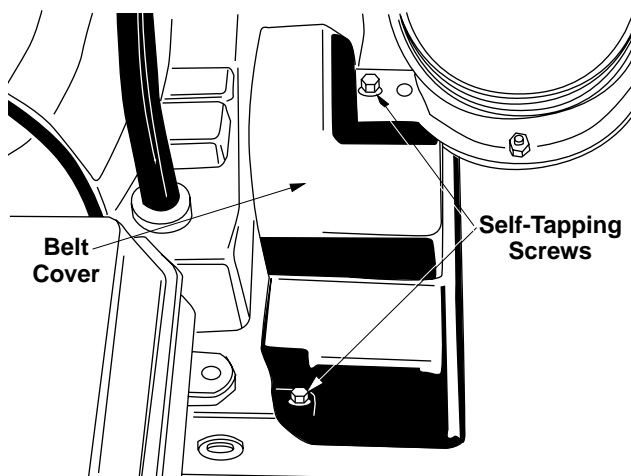

Figure 29
1. Remove the plastic belt cover on the front of the engine by removing the two self-tapping screws. See Figure 29.